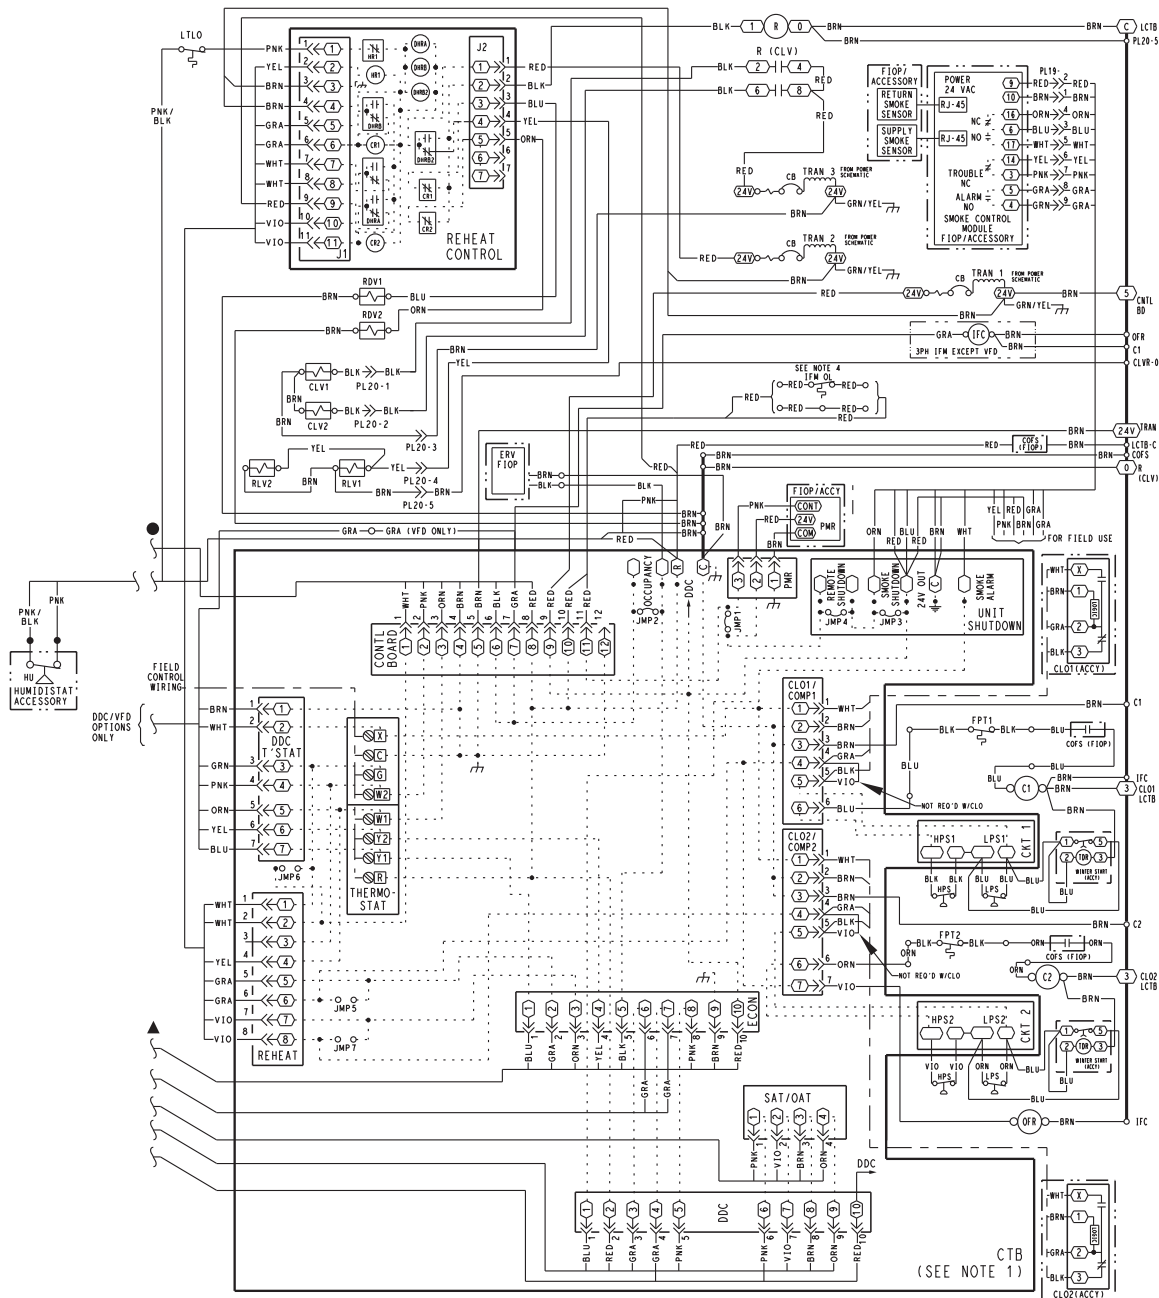

Fig. 42 — Typical Hot Gas Re-Heat Dehumidification System Humidistat Wiring
5. Use wire nuts to connect humidistat cable to two PINK leads in the low-voltage wiring as shown in Fig. 42.